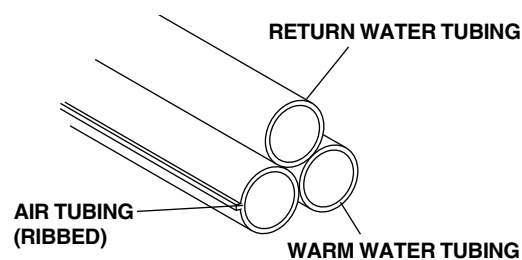

FIGURE 4
*A warm water circulating syringe also has a return water tubing which must be separated (see Figure 4).*
- Connect the syringe return water tubing (see Figure 4 on page 2) to the drip tubing (purple) channeled through the tubing chase.